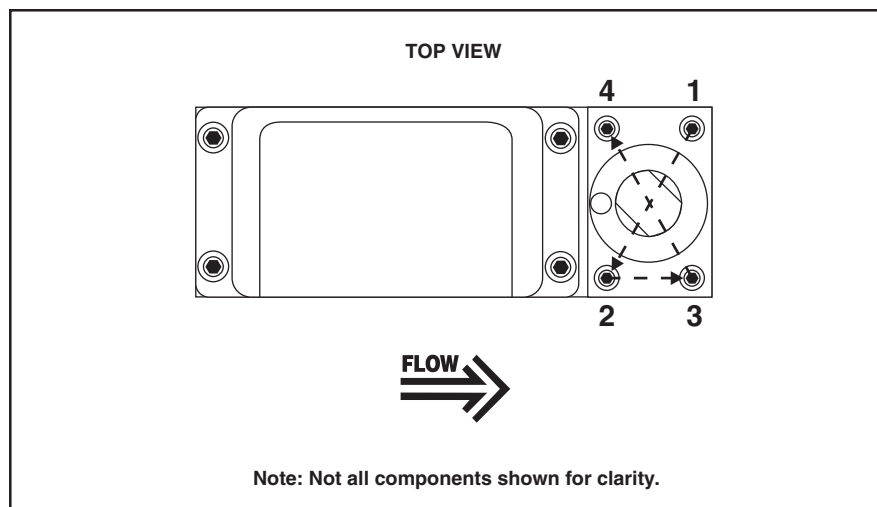

Figure 4-1 Torque Sequence for the Valve Retainer Plate (Controller)
4. (Mfi Series only), press the lubricated sensor O-rings (25B) into the flow controller body. Install the sensor assembly and secure with two screws (37) and washers (38) and tighten.
5. Install the orifice (33) and its O-ring (25A) using a 3/8 nut driver. Insure that the orifice is fully seated but do not overtighten.
7. Place the spacers (28B) and springs (29) on the valve seat (32) in the same order as noted in Step 8 of the disassembly. Screw the valve seat (32) into the plunger (26). Tighten the assembly until there is no looseness but do not overtighten.
9. Install the valve stem assembly (24), secure with the valve retaining plate (23) and four hex socket screws (22). Install O-ring (1) onto valve stem (24). When installing the screws they should first make light contact with the plate which should be checked to insure that it makes full contact around the stem assembly. Torque the screws securing the valve retaining plate in a diagonal pattern (refer to Figure 4-1) to 17 in/lbs